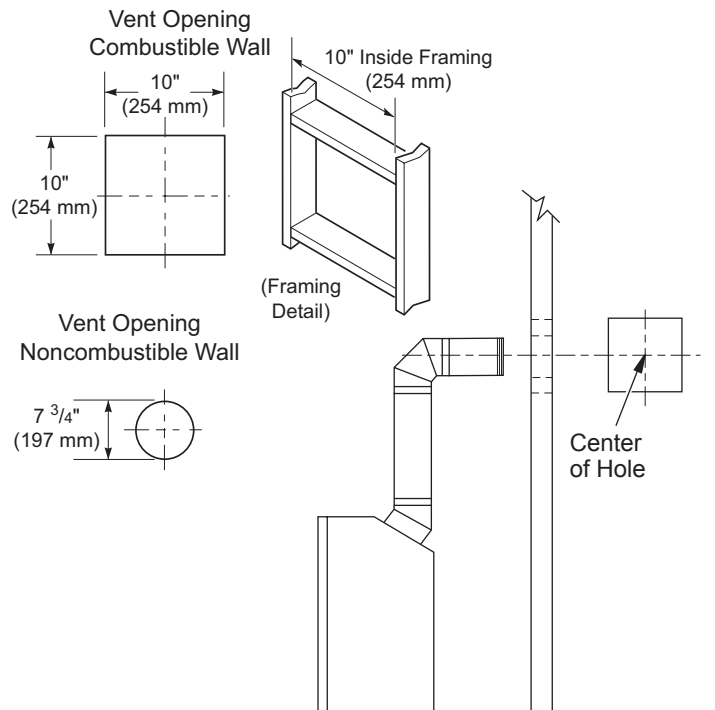
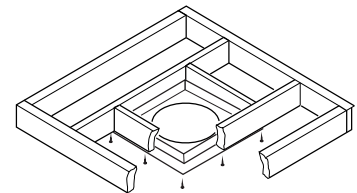

Figure 9 - Vent Opening Requirements
Figure 20 - Installing Firestop
- Carefully determine the location where the vent pipe assembly will penetrate the outside wall. The center of the hole should line up with the center-line of the horizontal vent pipe. Mark the wall for a 10" x 10" square hole. Cut and frame the square hole in the exterior wall where the vent will be terminated. If the wall being penetrated is constructed of noncombustible material, such as masonry block or concrete, a 7 3/4" hole with zero clearance is acceptable (see Figure 9).
1. Cut a 10" square hole in the ceiling using the locating hole as a center point. The opening should be framed to 10"x10" (254 mm x 254 mm) inside dimensions, as shown in Figure 9 on page 8 using framing lumber the same size as the ceiling joists. If the area above the ceiling is an insulated ceiling or an attic space, nail firestop from the top side. This prevents loose insulation from falling into the required clearance space. If the area above the ceiling is a living space, install firestop below the framed hole. The firestop should be installed with no less than three nails per side (see Figure 20).
3. Cut a hole in the roof using the locating hole as a center point. (Cover any exposed open vent pipes before cutting hole in roof.) The 10" x 10" hole must be measured on the horizontal; actual length may be larger depending on the pitch of the roof. There must be a 1" clearance from the vent pipe to combustible materials. Frame the opening as shown in Figure 9, page 8.